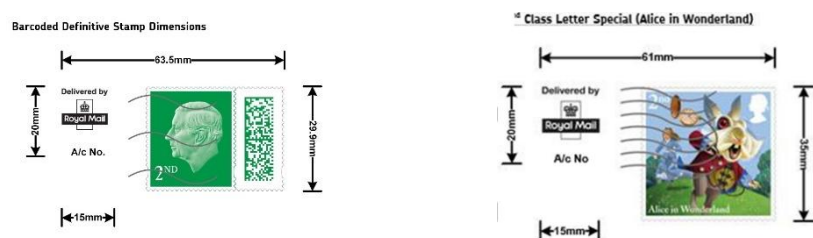

Figure 33: Access License Number positioning and dimension requirements for Digital Stamp Indicators
- You must ensure that the correct Access Licence Number (C9 number) relevant to the Access Contract you use for the Posting is added to the artwork in the position detailed in Figure 33 and Figure 34 below.
- Artwork must meet the exact dimensions of the Digital Stamp artwork (see Figure 33 below).